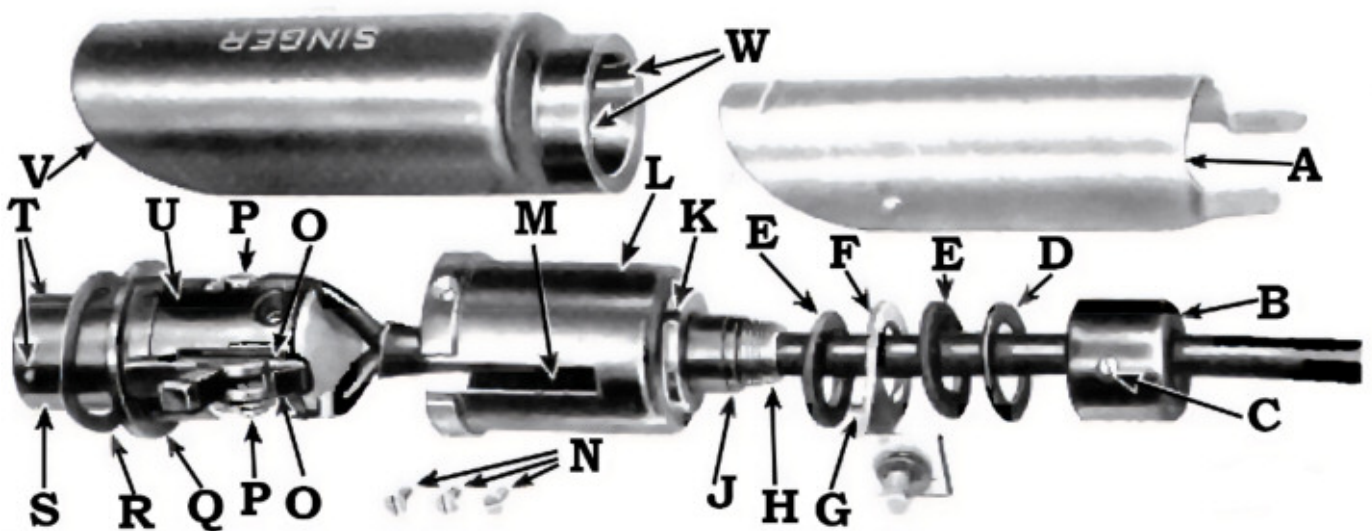

FIG. 21. SHOWING SCREW CONNECTIONS OF SINGERLIGHT
**Singerlight—Machine 201-3.** Disconnect the Singerlight leads from pins Nos. 1 and 3 of the three-pin terminal. Draw the reflector (A, Fig. 21) from the Singerlight shade (V). Turn the shade until the
pins (T) on the Singerlight lamp socket (S) reach the slots (W) on the inside of Singerlight shade base, and draw the shade from the lamp socket. Loosen screw (C) in Singerlight nipple cap (B) along the leads and away from the Singerlight shell (L) as shown in Fig. 21. Remove the three screws (N) which fasten the shell (L) to the lamp socket body (U), and draw the shell (L), fibre washer (D), Singerlight bracket (F) and the two felt washers (E) along the leads and away from the lamp socket body (U) as shown in Fig. 21.
Note that the spreader, shown in Fig. 21 at the base of Singerlight body (U), is provided with four notches – two round bottomed notches are for the Singerlight leads, while the two V-notches are for the two positioning ribs on the inside of the shell (L). One side of this spreader – the side which is placed against the lamp socket body (U) as shown in Fig. 21 – is marked by a line which connects the two leads notches. When replacing this spreader, be sure to place the leads in the round bottomed notches and have the marked side of the spreader against the lamp socket body (U) as shown in Fig. 21.
When reassembling, push the shell (L) tight against the flange (Q) of lamp socket body (U) and with the slot (M) engaged by the grooves (O) in cover plate. Insert and tighten the three screws (N). Put the felt washers, bracket and fibre washer on the screw nipple bushing (J) and against the base of the shell (L) in the following order and as indicated in Fig. 21:
Before replacing the Singerlight shade (V, Fig. 21) and reflector (A), be sure to have the spring washer (R) on the lamp socket (S), as shown in Fig. 21.